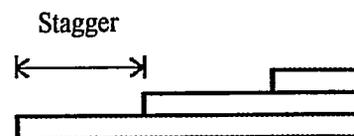

Figure 2-2
STEP 4. Remember the prototype eases into the maximum SE, therefore in order to create a smooth transition into the maximum SE, you can do one of two things, divide the length of your easement by 14 for HO or 8 for N, giving you the stagger (Figure 2-2, the distance from the edge of the first layer of tape to the next layer) for each new layer, or simply "eyeball" the stagger and call it good. It's your railroad, so you pick! For larger curves (28" radius and above) in HO, I use a 1 inch stagger. This means it will take 14 inches of actual run before I reach the scale 6 inch maximum SE. By staggering the layers at equal distances, the transition up to and down out of maximum SE will be seamless, just like the prototype. It will also eliminate the hours of sanding and rasping of stripwood. This is a good thing.